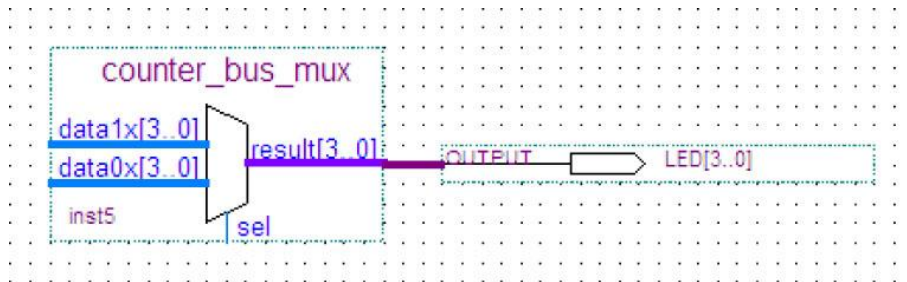

Figure 6-39 Rename the output pin
19. Rename the output pin as LED [3..0] as described in steps 13 c and d. (see **Figure 6-39**).